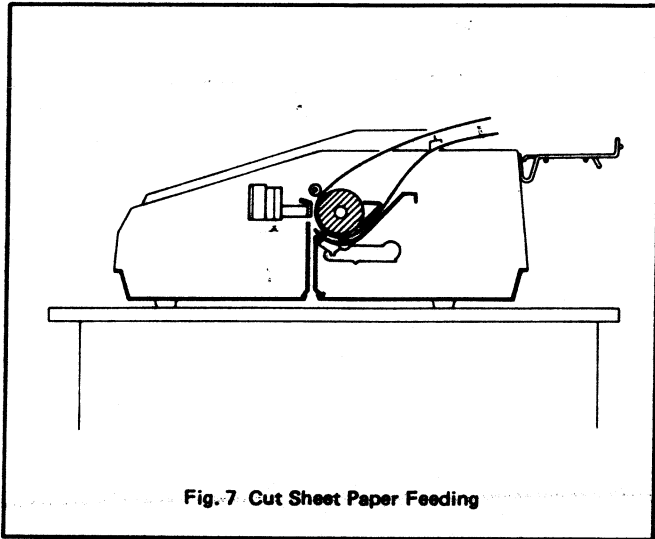

Fig. 7 Cut Sheet Paper Feeding
4. Load cut sheet paper using the bottom or the rear entry (see fig. 7), temporarily setting the platen release lever to 'Tractor' to allow paper alignment.